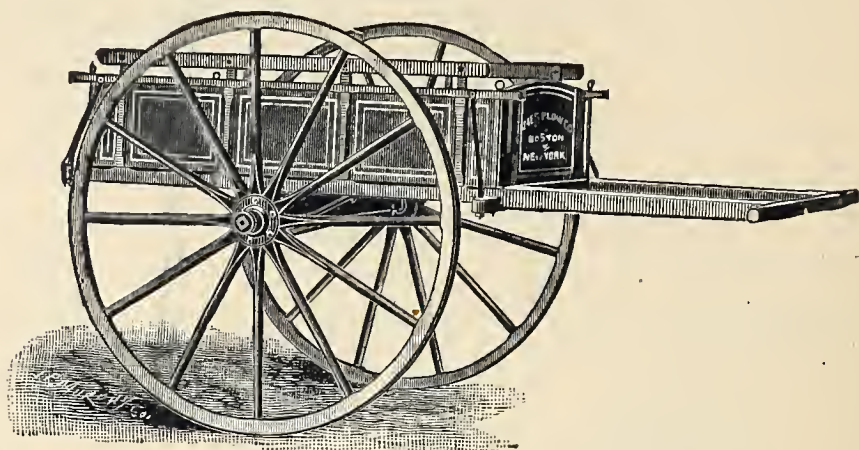

Fig. B 536.—Hand-Cart.
*The Hand-Cart*, represented by *Fig. B 536*, is very useful for light work. They are thoroughly made, and finely painted. The leading kinds are as follows:—